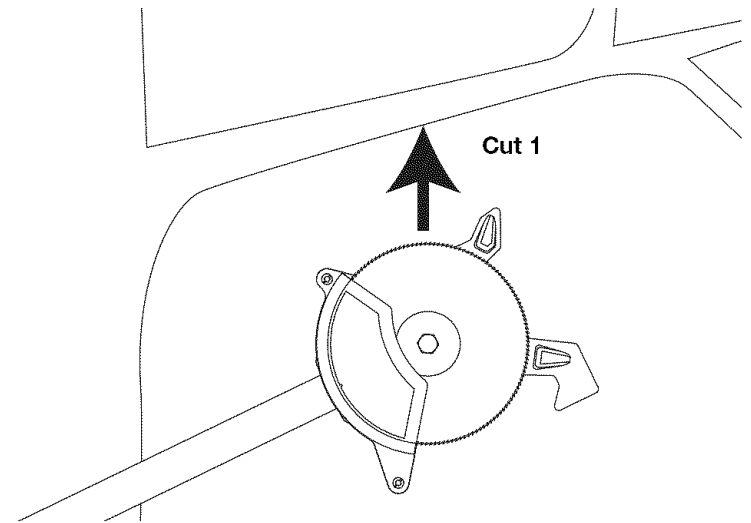

Fig. 7
1. Using the top edge of the blade (Fig. 7), score the bottom of the branch to a depth of up to about a half inch for Cut 1. This will help keep the bark from ripping away from the tree when the branch is cut.